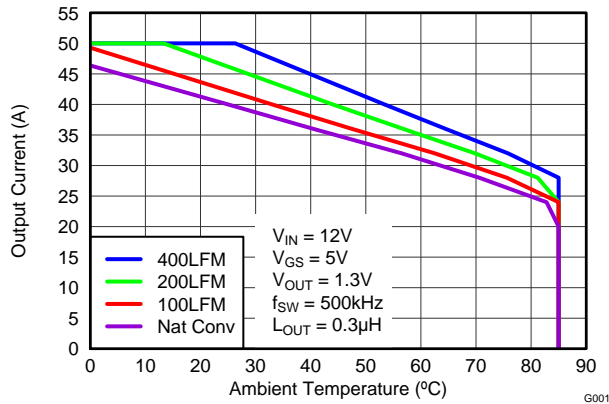

Figure 3. Safe Operating Area – PCB Vertical Mount (1)
The SOA curves in the CSD86360Q5D data sheet provides guidance on the temperature boundaries within an operating system by incorporating the thermal resistance and system power loss. Figure 3 to Figure 5 outline the temperature and airflow conditions required for a given load current. The area under the curve dictates the safe operating area. All the curves are based on measurements made on a PCB design with dimensions of 4" (W) x 3.5" (L) x 0.062" (T) and 6 copper layers of 1 oz. copper thickness.